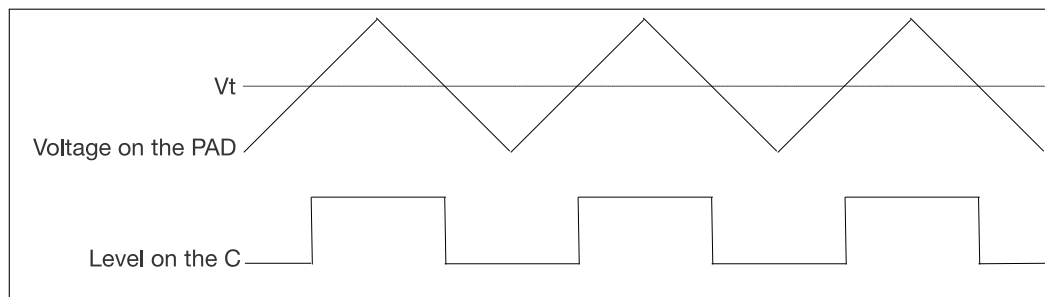

Figure 9.10-1. Example of Level Flip on the Chip Pad — Hysteresis Function Not Enabled
Each GPIO pin has hysteresis functionality. When hysteresis is not enabled, as shown in Figure 9.10-1, the level flip of the signal (C) input to the chip from the PAD has only one threshold (V_t , about 1.7 V). When the voltage on the PAD is higher than V_t , the level on the C is high. Otherwise, it is low. However, noise on the PAD may affect the signal on C.